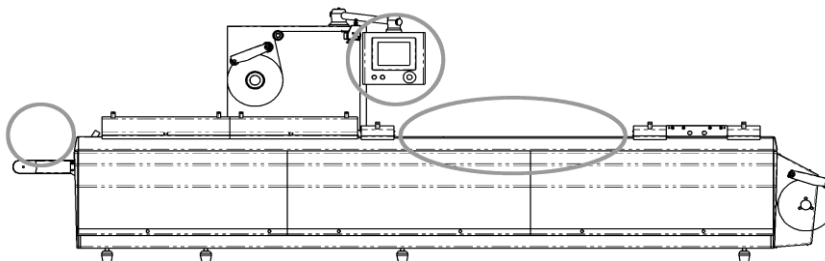

Figure 2.1 Operator's activity zones
- When the machine is running the operator may carry out activities only in the zones indicated in Figure 2.1.